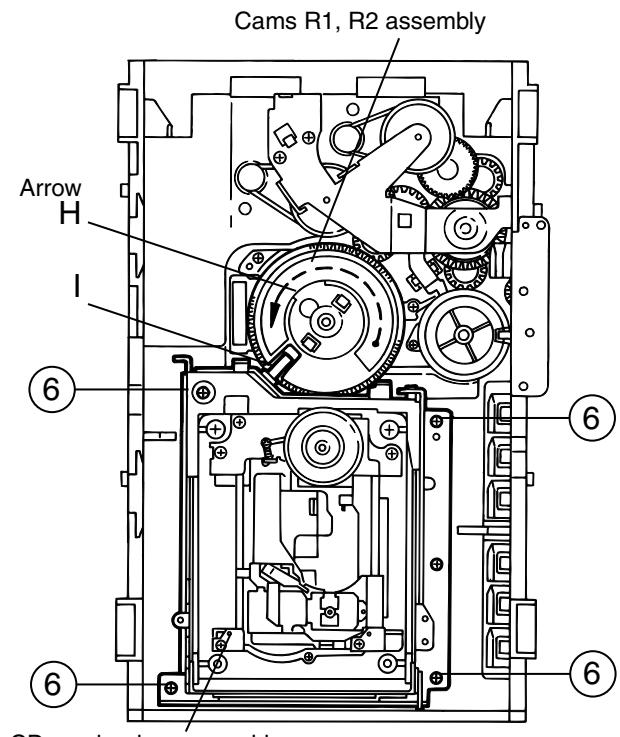

Fig.10
■ Removing the DVD mechanism assembly(See Fig.10)
1. While turning the cams R1 and R2 assembly in the arrow direction "H" . align the shaft "I" of the DVD mechanism assembly to the position shown in Fig.10.